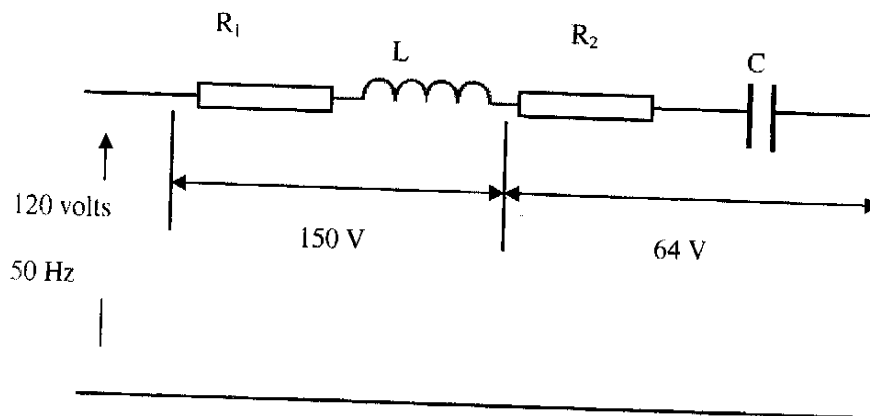

Fig Q4
- (ii) the resistance and inductance of the relay coil. (4)
- Calculate the new time delay assuming the instantaneous current is 200 mA. (6)
- (a) Draw the load line on the characteristics. (2)
- (i) the R.M.S. signal current in the load; (4)
- (ii) the d.c. power dissipated in the load; (4)
- (iii) the R.M.S. output voltage; (4)
- (iv) the current gain of the transistor. (2)
4. The series a.c. circuit shown in Fig Q4 is connected to 120 V, 50 Hz supply. It draws a current of 2.4 A at a power factor of 0.8 lagging. The resistor  $R_2$  dissipates 57.6 W and the volt drops across the various parts of the circuit are as shown.